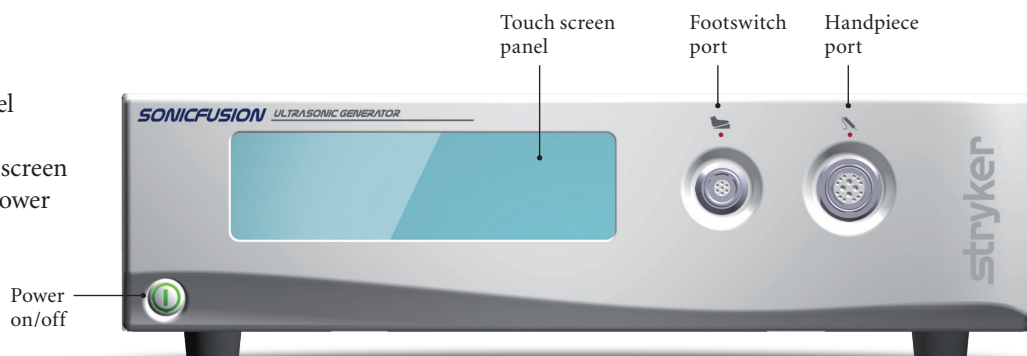

Fig. 5
3. Connect the handpiece and footswitch to the appropriate ports (Fig. 5, handpiece port, footswitch port)
The ultrasonic generator front panel features ports for connecting the handpiece and footswitch, a touch-screen to provide system feedback and a power on/off button (Fig. 5).